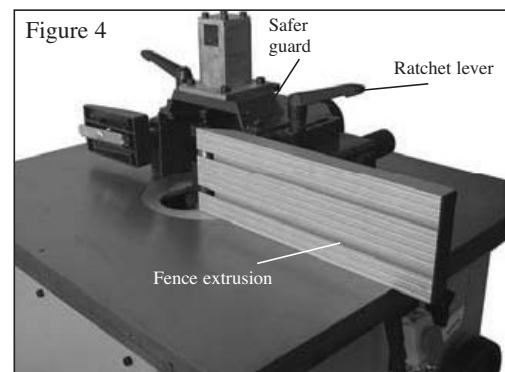

Figure 4
2. Insert the ratchet lever M8x150 with a 8mm large washer into the safer guard as shown in Figure 4, and thread the ratchet lever clockwise to secure to the table.